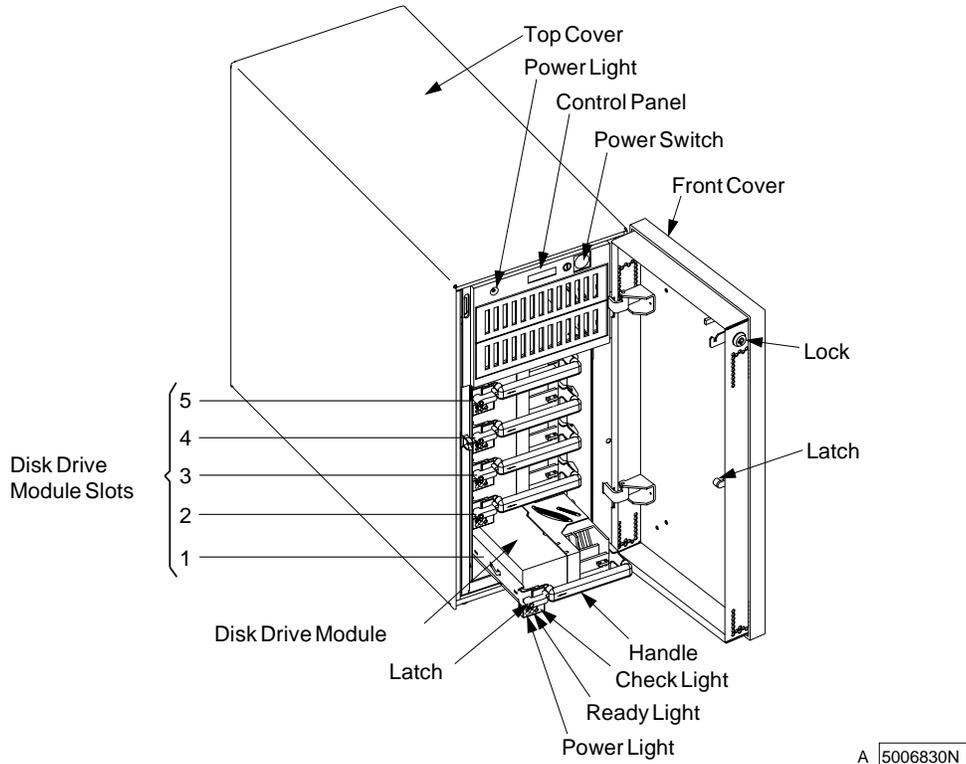

Figure 3-2. Front Cover
- 1 Open the front cover beyond a 90° angle. See Figure 3-2.
- 1 Open the front cover. See Figure 3-2 on page 3-3.
- 1** Open the front cover. See Figure 3-2 on page 3-3.